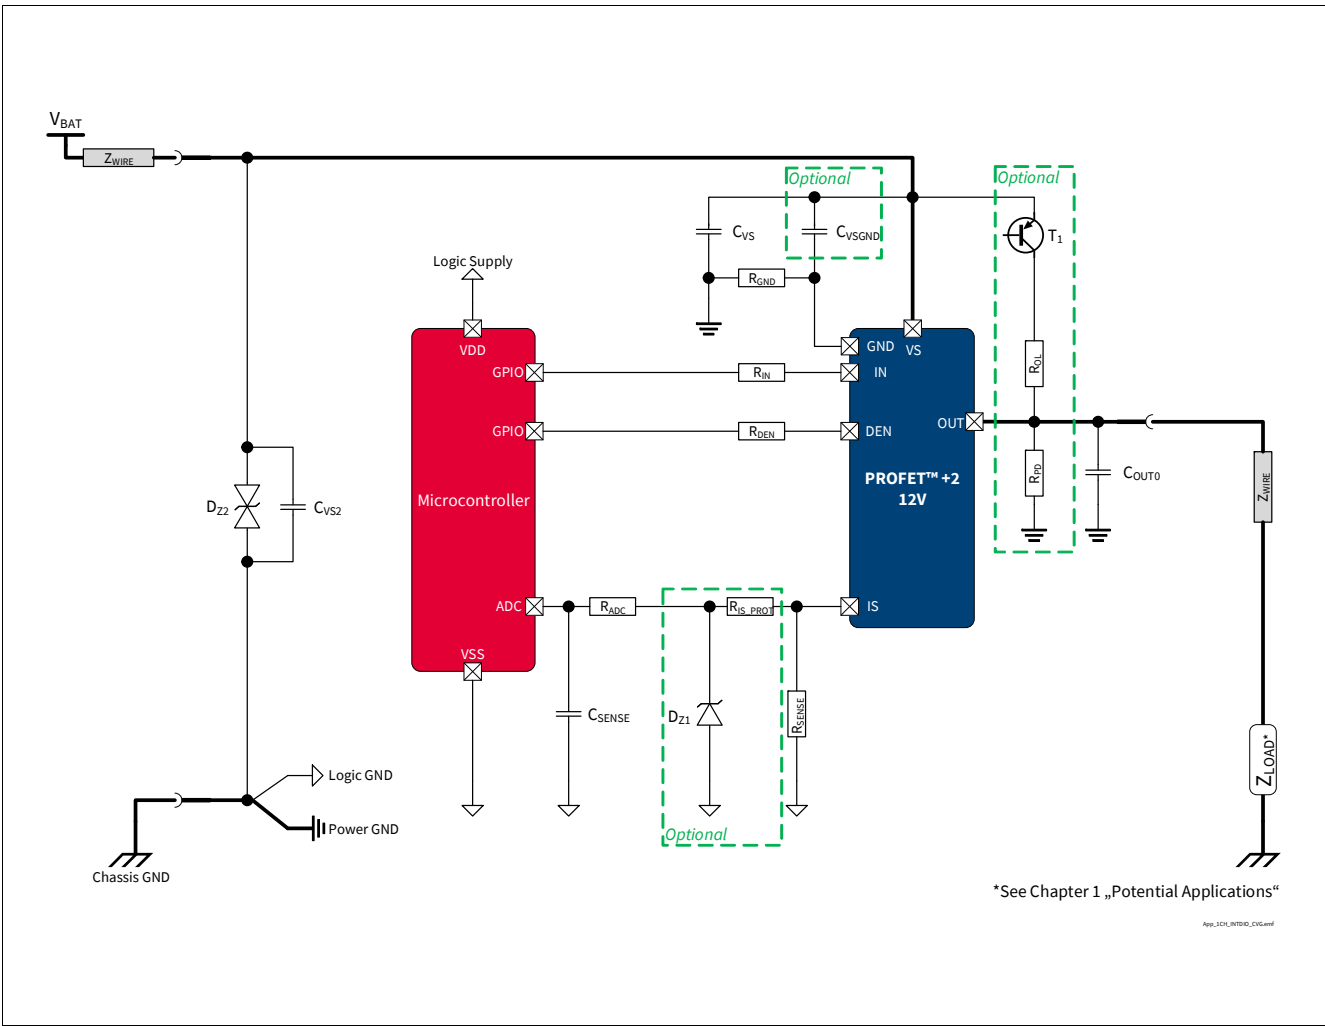

Figure 42 BTS7012-1EPA Application Diagram
1.02 , 2019-10-15	P_8.7.3.1, P_8.7.3.7, P_8.7.3.8 updated (added in Note or Test Condition: link to Figure 25) P_7.5.3.4, P_7.5.3.5 updated (added in Note or Test Condition: DEN = “low”; link to Figure 19) P_7.5.3.12 updated (added in Note or Test Condition: see Figure 21; deleted unnecessary space in Symbol: $dV_{OUT} / dt \rightarrow dV_{OUT} / dt$) P_8.7.3.6 updated (added in Note or Test Condition: see Figure 26) P_9.7.3.1 updated (added in Note or Test Condition: See Figure 34) P_9.7.3.6 updated (Min./Typ./Max.: -45%/4800/+45% $\rightarrow$ -34.0%/4875/+34.0%) P_9.7.3.9 updated (Min./Typ./Max.: -38%/4800/+38% $\rightarrow$ -25.0%/4875/+25.0%) P_9.7.3.12 updated (Min./Typ./Max.: -34%/4800/+34% $\rightarrow$ -22.5%/4875/+22.5%) P_9.7.3.15 updated (Min./Typ./Max.: -22%/4800/+22% $\rightarrow$ -12.5%/4875/+12.5%) P_9.7.3.17 updated (Min./Typ./Max.: -9%/4800/+9% $\rightarrow$ -7.7%/4875/+7.7%) P_9.7.3.19 updated (Min./Typ./Max.: -6%/4800/+6% $\rightarrow$ -4.5%/4875/+4.5%) P_9.7.3.21 updated (Min./Typ./Max.: -5%/4800/+5% $\rightarrow$ -4.0%/4875/+4.0%) P_7.5.3.11 updated (added in Note or Test Condition: see Figure 19) P_4.2.3.6 updated (Max.: 12 mJ $\rightarrow$ 15 mJ) Figure 1, Figure 42 updated Chapter 1 updated (or LED equivalent $\rightarrow$ or equivalent electronic loads (e.g. LED modules)) P_4.3.0.7 added Table 23 updated Chapter 5.1 updated (added: see Chapter 10 for the complete application setup overview)